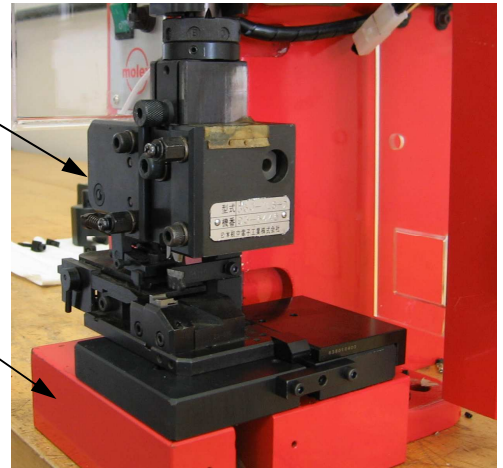

Figure 1
- This Press Adapter Kit is designed for a specific version of a JAE Applicator used in the JAE CP215-5B crimp press. This Molex® adapter kit allows the JAE applicator to be installed into a Molex® TM-3000™ or TM-4000™ press. See Figure 1.